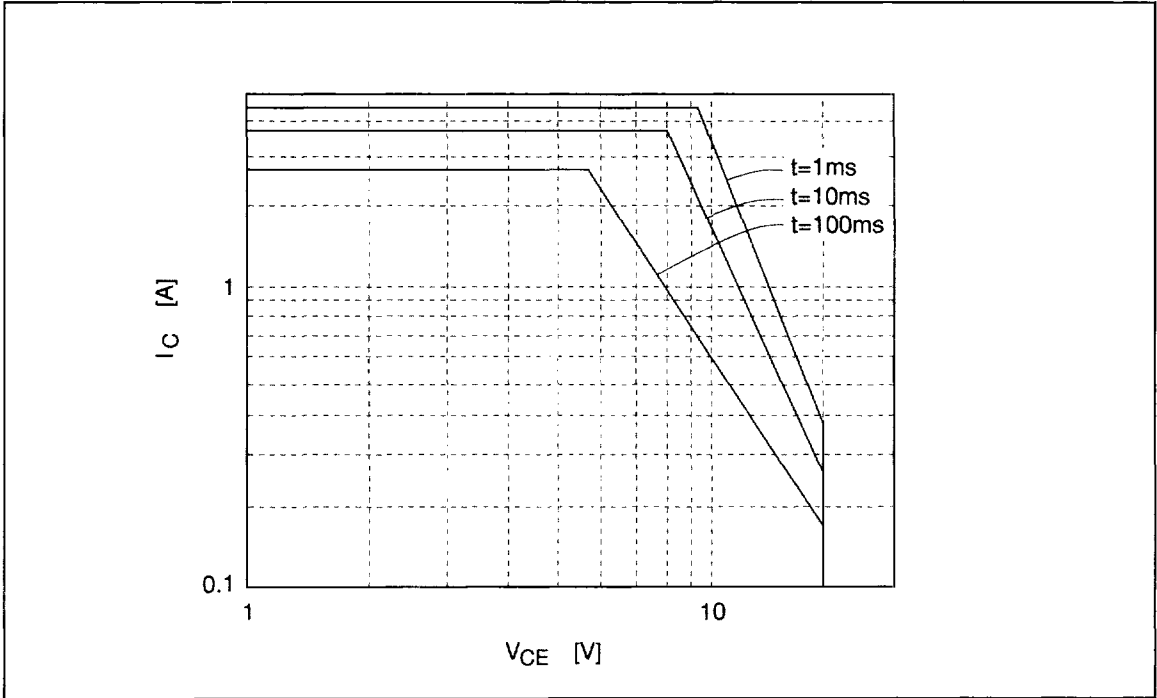

Figure 7 ASO of output stage (Spindle)
2. ASO of each output transistor is shown below (See figure 7, 8). Operating locus must be with in the ASO.